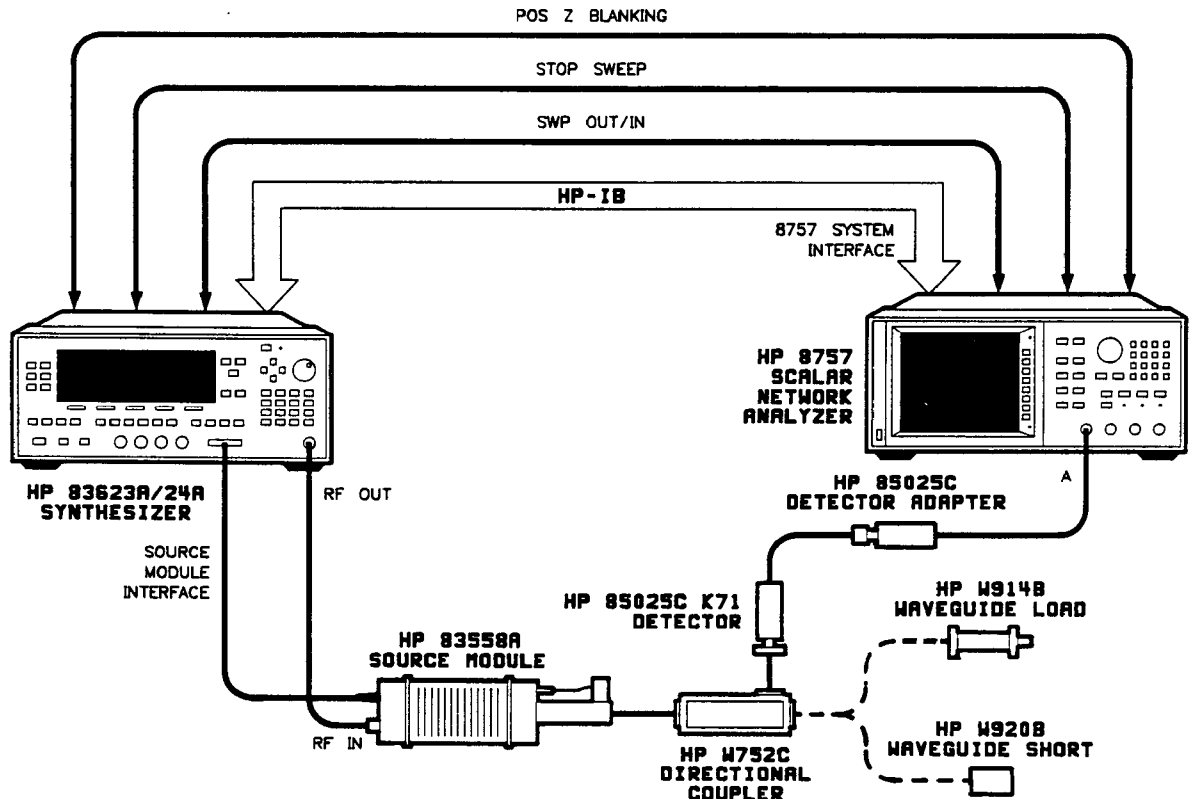

Figure 3-6. Output SWR Test Setup
1. Connect the equipment as shown in Figure 3-6 with the load connected to the waveguide.